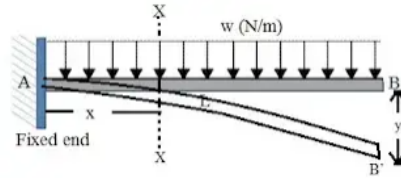

Figure 4: Solid simulation: Wing tip displacement analysis
- Expected tip displacement (Figure 4):  $y_B = -\frac{wl^4}{8EJ_x} = -1.227 \cdot 10^{-3}m$